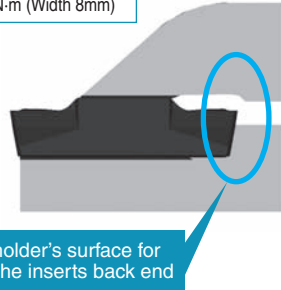

Fig.2
4. Make sure that there is no gap between the insert and the back end of the toolholder's surface and that the insert is set straight (Ref. to Fig. 2 and 3).